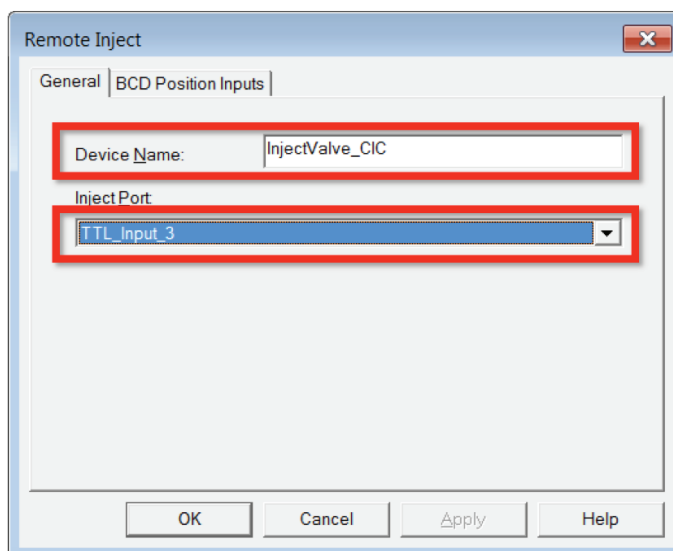

Figure 7. Configuring the Remote Inject Module.
2. Select the TTL signal to be used (Figure 7).